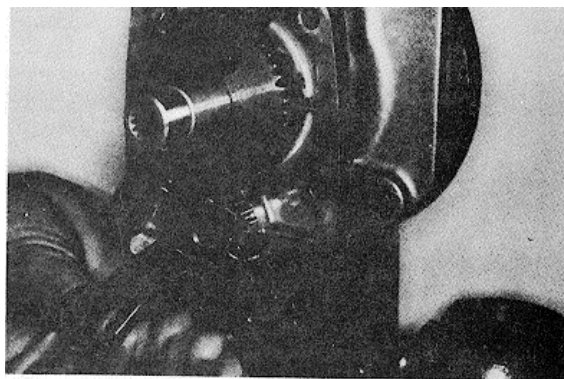

Fig. 5-58, F5305. Installing weight assist plunger in cast weight carrier.
10. Install shims, when required, spring and governor assist plunger between governor weights and into bore of governor weight carrier shaft. Fig. 5-58.